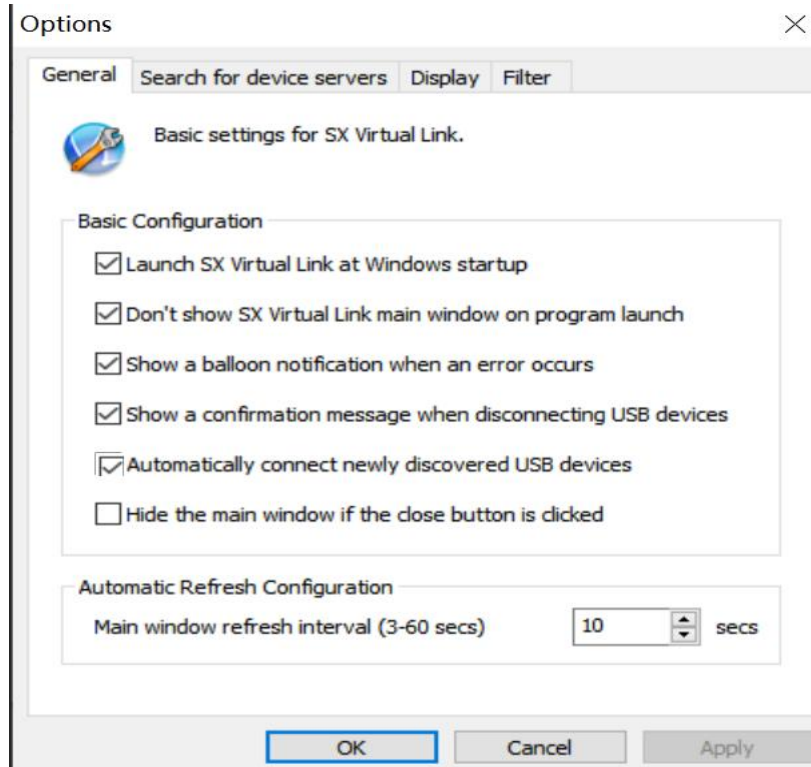

Fig. 4-7 SX virtual link software setting interface
3) Install "SX virtual link" virtual connection software on the computer, and start "SX virtual link" after successful installation. Click the "options" button, select the "general" tab, and select all the options in "basic settings", as shown in Figure 4-7.